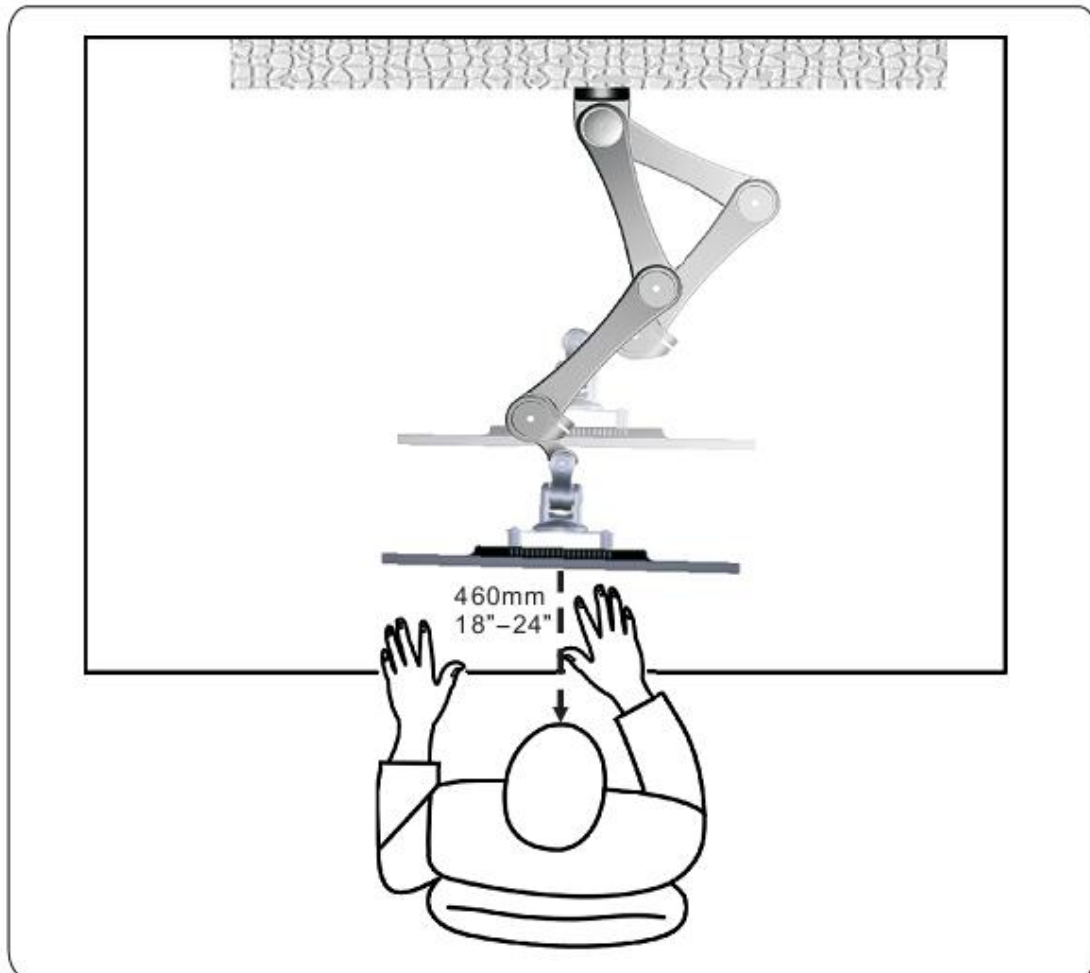

Figure 6-1
1. To ensure the correct focal distance for ultimate visual comfort, a viewing distance between 460mm (18") to 610mm (24") is recommended (**See Figure6-1**).